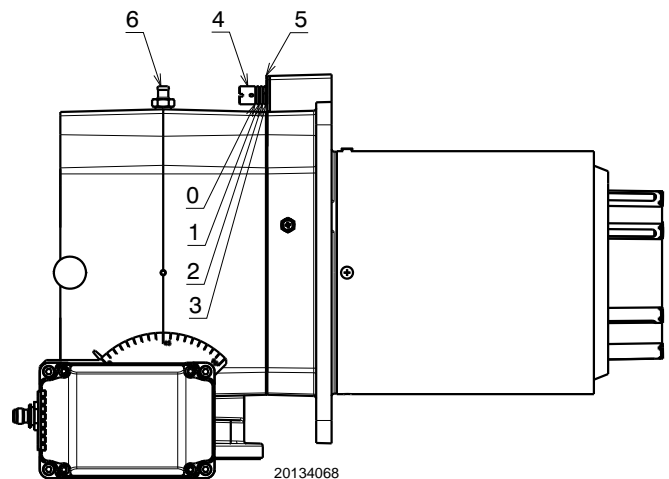

Fig. 14
- Rotate the screw 4)(Fig. 14) until the notch you have found corresponds with the front surface 5) of the flange.